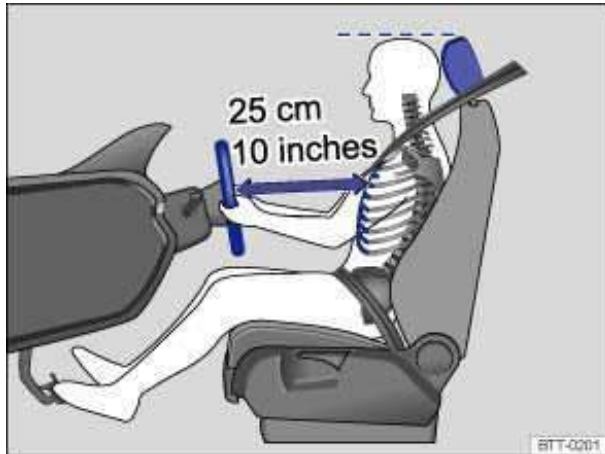
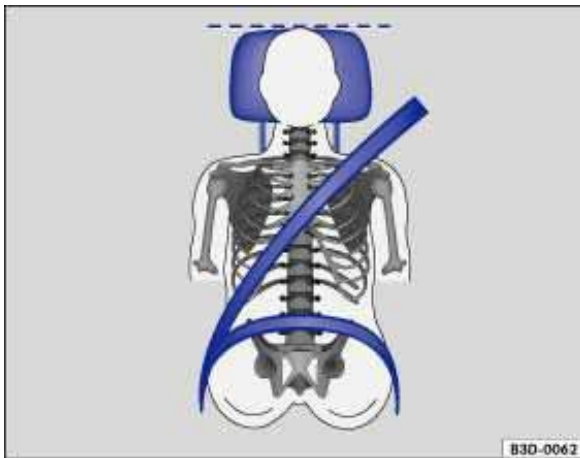

Fig. 36 The driver should never sit closer than 10 inches (25 cm) of the steering wheel.
Fig. 37 Proper safety belt positioning and head restraint adjustment.
- Adjust head restraints so that the upper edge of the head restraint is at least at eye level or higher. Position the back of your head as close as possible to the head restraint ⇒ fig. 36 and ⇒ fig. 37.
- Adjust the steering wheel so that there are at least 10 inches (25 cm) between the steering wheel and your breast bone ⇒ fig. 36. When adjusting the proper distance to the steering wheel, grasp the top of the steering wheel with your elbows slightly bent.